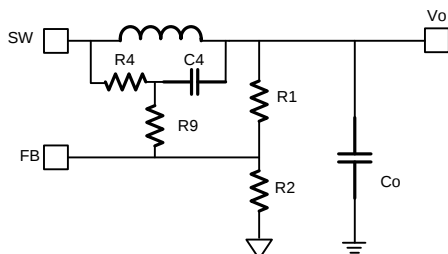

Figure 12—Simplified circuit with external ramp
C_4 acts as a feed-forward capacitor to improve the transient and can be set in the range of 0 pF-1000 pF. A larger value for C_4 leads to better transient, but it is more noise sensitive. Reserve room for a noise filter resistor (R_9) as shown in Figure 12. The value is calculated with Equation (5).
Besides the R_1 & R_2 divider, the output voltage is influenced by R_4 (see Figure 12). R_2 should be chosen reasonably, a small value for R_2 leads to considerable quiescent current loss while too large a value for R_2 makes the FB noise sensitive. It is recommended to choose a value within 5 k Ω -50 k Ω for R_2 . Use a comparatively larger value for R_2 when V_o is low and a smaller value for R_2 when V_o is high. The value of R_1 then is determined using Equation (4):